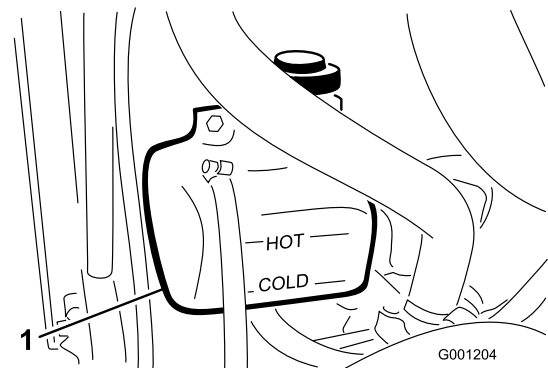

Figure 24
1. Check the level of the coolant in the expansion tank (Figure 24).